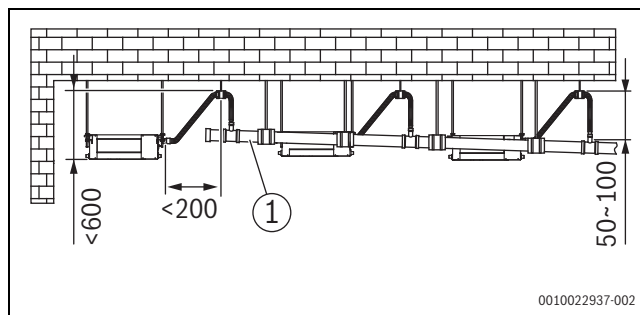
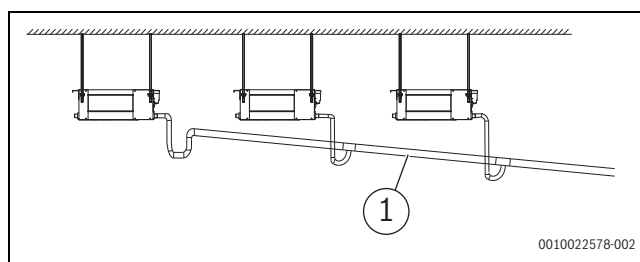

Fig. 96 Installation and distances of water discharge piping with a water pump [mm]
Fig. 97 Installation of water discharge piping without a water pump
- Install the drainage pipes as shown in figure 96 (with a water pump) and figure 97 (without a water pump). The drainage piping outlet should not be higher than the drainage height, ensuring a downward slope of more than 1/100.